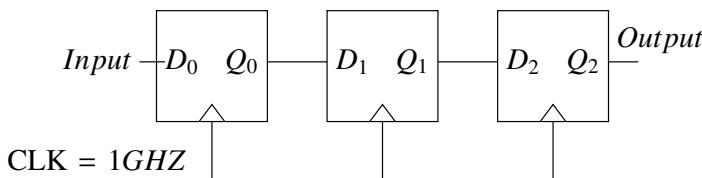

Fig. 5.6
6. Implement the synchronous sequential circuit shown below in Fig. 5.6 with a clock frequency of 500Hz. (GATE EC 2023)